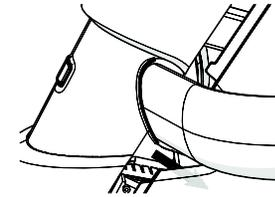

Figure 15
4. Guide the front cover around the arms so that the tabs at the bottom corners are inside the two side covers. Slide it into place until the latches on the side covers click into place (see Figure 15).